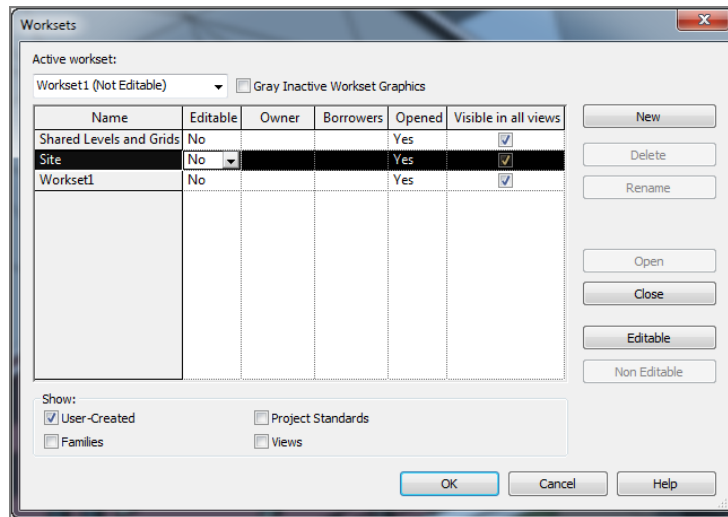

FIGURE 22.10: Making all worksets not editable
13. Make all worksets not editable, as shown in Figure 22.10, and then click OK.